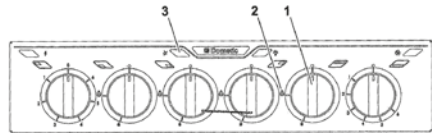

Fig 8
- To generate the flame, fully press down the control knob (Fig. 8 1) and turn it to the large flame position (Fig. 8 2).
- Simultaneously push down the electronic ignition button (Fig. 8 3). Once the flame has been generated, press the knob down for a few seconds so that the flame remains lit.
- To adjust the flame, turn the knob to the desired position (Fig. 8 1).